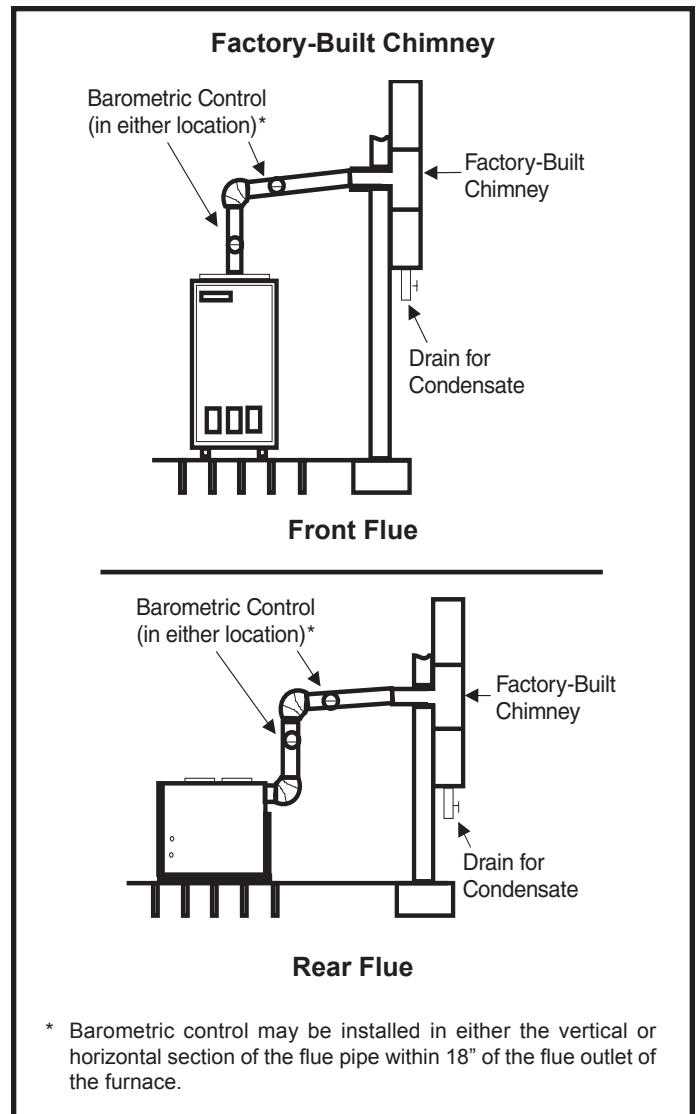
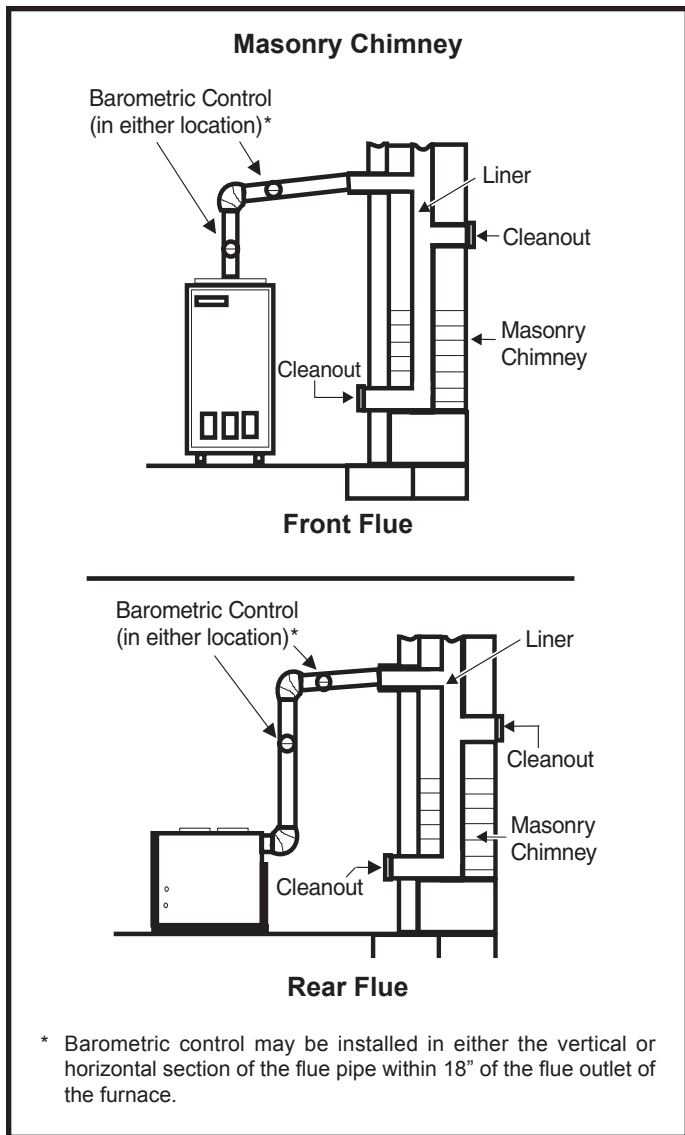

Figure 7
Figure 8
- The flue pipe should slope upward toward the chimney on a horizontal run of at least 1/4" per foot and should be supported by something other than the furnace (see Figure 7 on this page and Figure 8 on page 8).
- All vent pipe run through unconditioned areas or outside shall be constructed of factory-built chimney sections (see Figure 7).
- Where condensation of flue gases is apparent, the vent shall be constructed to prevent the condensation from entering the flue transition box opening. Provisions shall be made to drain off the condensate (see Figure 7).